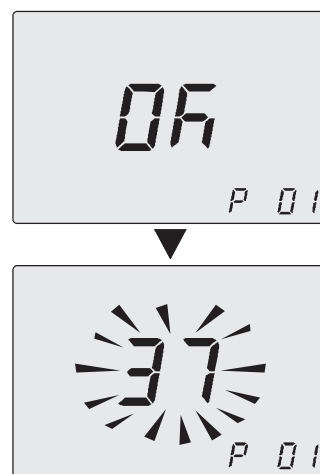

Figure 9.9
- 4 The setting is confirmed by the visualization of **OK** and then the display shows the value of changed parameter (Figure 9.9).